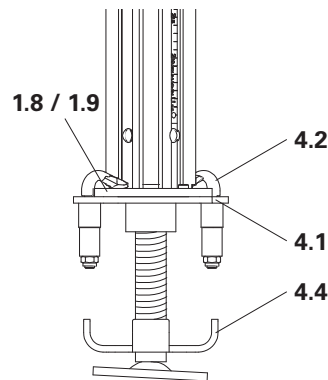

Fig. A2.15
→ The Tilting Base MP MKF (4) is connected to the prop. (Fig. A2.15)
3. Spindle the Tilting Base MP MKF (4) to the required dimension using the wing bolt (4.4).